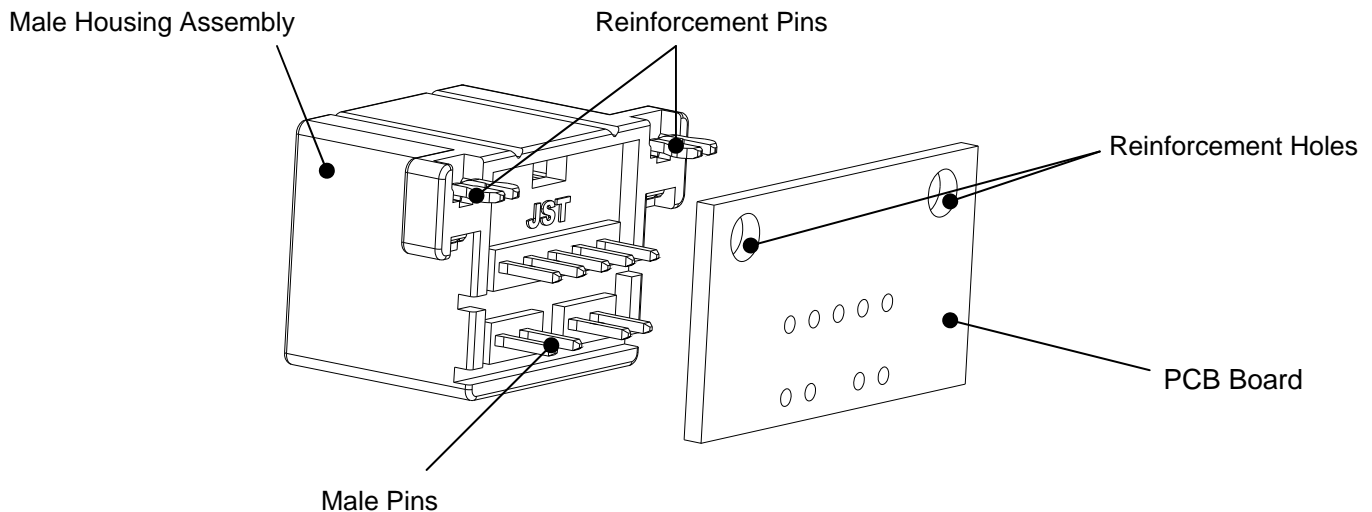

Figure 23. Polarization of the Male Assembly with the PCB Board (e.g. 9 positions)
- c) When placing the male housing assembly on the PCB board, check to see if the Male pins and the reinforcement pins are in the proper alignment with proper holes on the PCB board. See Figure 23.